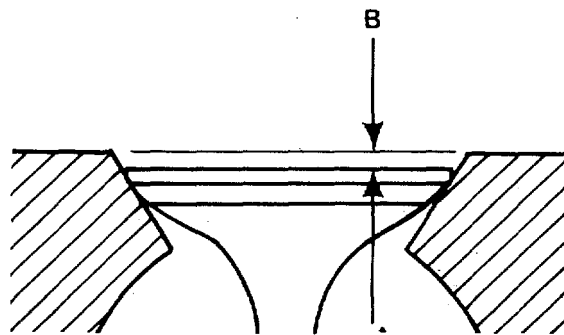

FIGURE 4-18. Calculate Grinding Depth (B).
- (5) Install the valves in their respective bores and measure depth again.
- (6) Record the depth of each valve as (B) (See FIGURE 4-18). Calculate grinding depth (GD) as follows: $GD = (B) - (A)$.